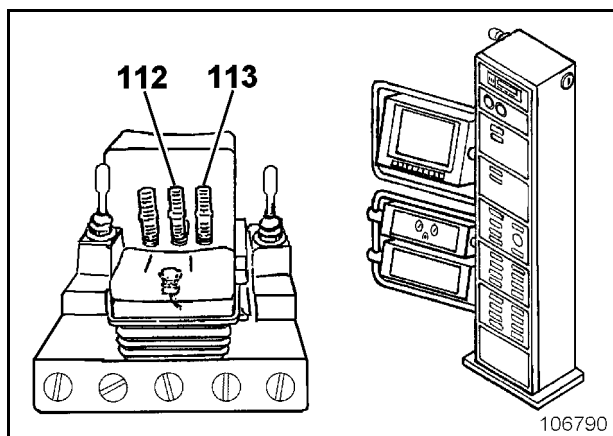

Fig. 2-77:
- depress only pedal (112, Fig. 2-77:) forwards.